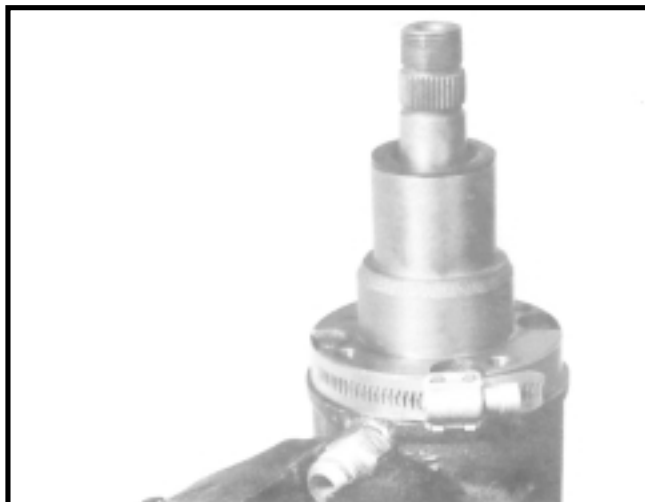

Figure HGA-20
15. Assemble spacer (15) over valve spool (22), against spring washer (14). If so constructed, the inside lip end of spacer must be toward the spring washer. Place assembly, spool end first, into housing (25). **Caution: Avoid applying side forces to the spool which would cause binding of the closely fitted assembly.**
**Note: If neither the input shaft (16) or upper cover (7) are replaced, the original shims (9) may be reused. However, if in the inspection of parts, damage is found to the shims, discard these shims and replace with new parts of equal thickness.**
- 16a. Place shims on top of the thrust washer (11). Coat seal (8) with clean grease and place in upper cover (7) counterbore. Assemble upper cover onto input shaft (16) and rotate to align punch marks previously made during disassembly. **Note: If a new upper cover is used no angular orientation is required. However, it is necessary to align the upper cover (7) and housing (25).** Replace with screws, finger tight, and then use a pilot ring or a worm drive type hose clamp tightened around the upper cover flange and the body pilot diameter to achieve the required alignment. Now tighten screws to 18-22 ft. lbs. torque. (See Figure HGA-20).